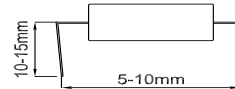
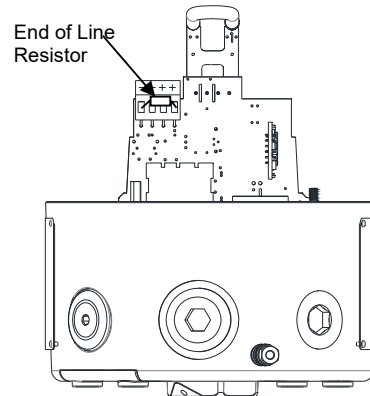

Fig. 7a End of Line Resistor Forming
Fig. 7b End of Line Resistor Placement
-ve terminals as shown in the following drawing. Form the resistor legs as shown in Fig. 7a, fit the resistor across the two terminals, as shown in Fig. 7b.